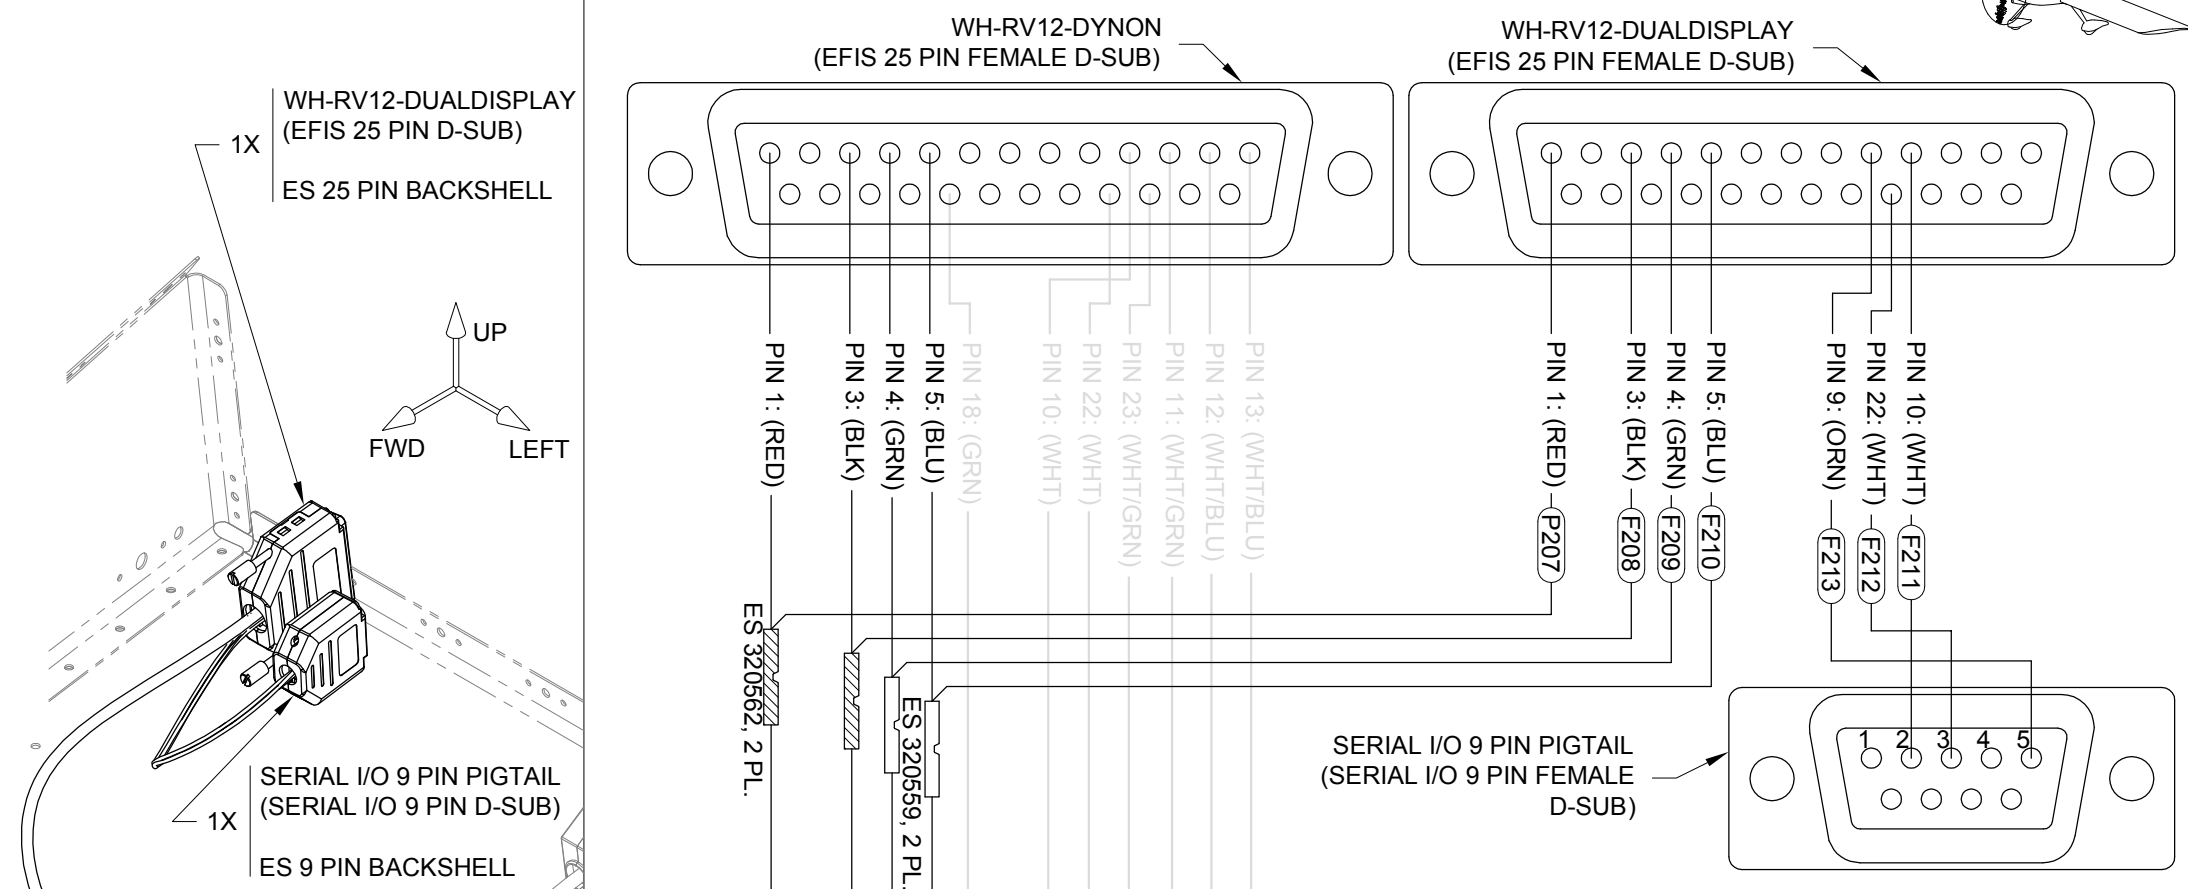

FIGURE 2: WIRING DIAGRAM
Step 8: Identify the correct GRN wire by checking for continuity using a multimeter (or equivalent) between the corresponding pin at the WH-RV12-DYNON harness EFIS 25 PIN D-SUB connector and a needle inserted through the insulation of one of the GRN wires at the intended splice location. See pin 4 in Figure 2. Once identified cut the GRN(pin 4) wire and strip each end.